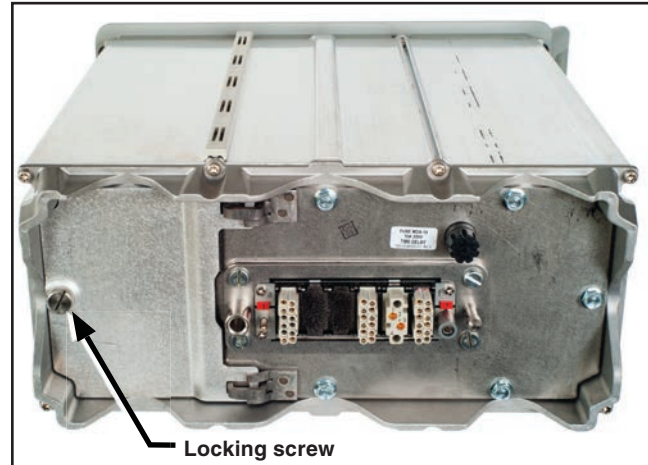

Figure 4. Loosening the battery compartment cover locking screw.
- STEP 1.** Loosen the battery compartment cover locking screw using a  $\frac{3}{8}$ -inch nut driver. See Figure 4.
- STEP 1.** Loosen the battery compartment cover locking screw and open the battery compartment cover. See Figures 4 and 5 on page 8.
- STEP 1.** Inspect the wiring connectors and insertion guides of the communication module and communication module bay for damage. See Figure 4 on page 8.